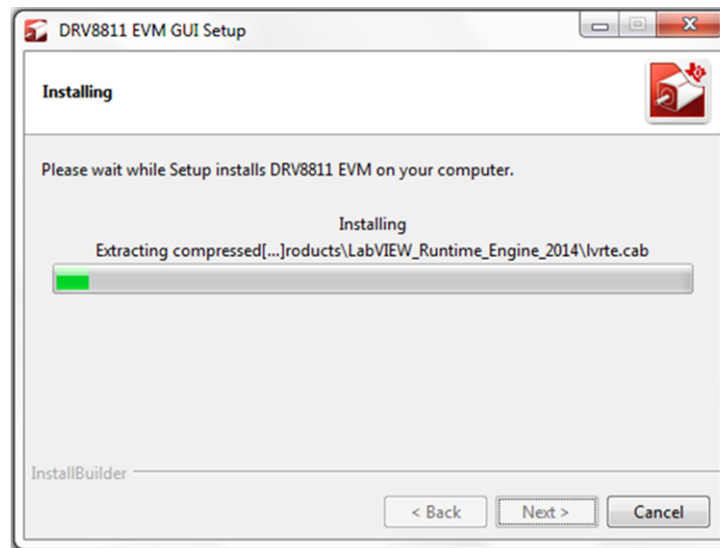

Figure 12. LabVIEW RTE Self Extraction
10. Once the download completes, LabVIEW begins with the self-extraction as shown in Figure 12.